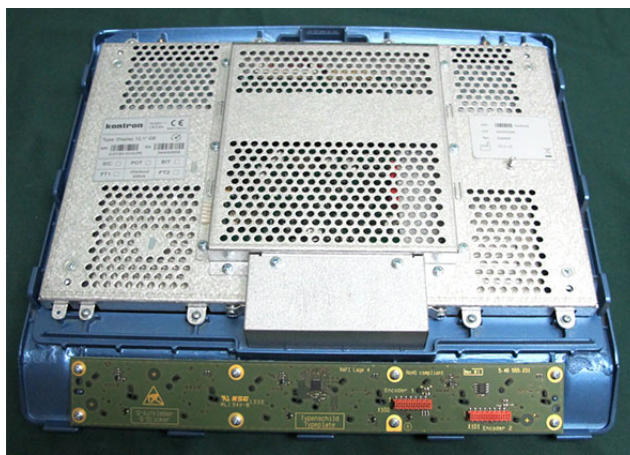

Figure 8-73 Touch Screen Removed
- 8.) Carefully lie the Touch Screen face-down on a clean, soft, stable surface - Figure 8-73